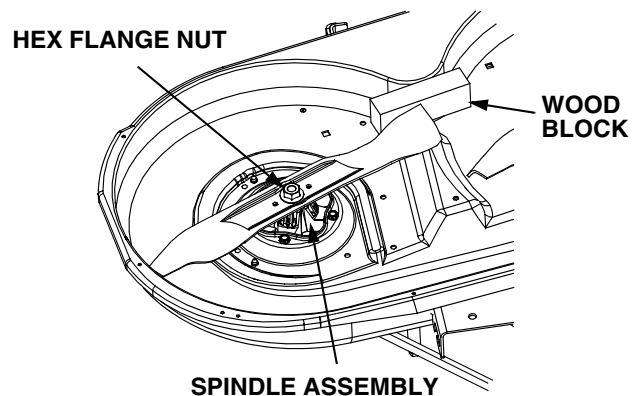

Figure 34
- Use a 15/16 inch wrench to hold the hex nut on top of the spindle assembly when loosening the hex nut securing the blade. A block of wood may be placed between the deck housing and the cutting edge of the blade to help in breaking loose the hex nut securing the blade. See Figure 34.